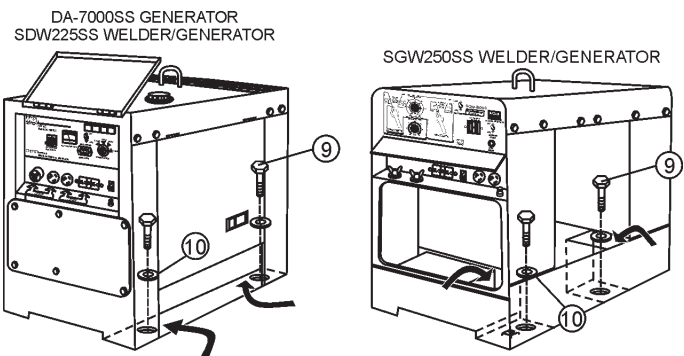

Figure 5. Insert Bolts/Washers through Cabinet Floor
5. Locate the four bolt holes on the underside of the cabinet near the front and rear of the machine. Reach into the cabinet and place a bolt and washer through the cabinet floor through each hole (Figure 5). A flashlight might be necessary to find the bolt holes in the cabinet floor.